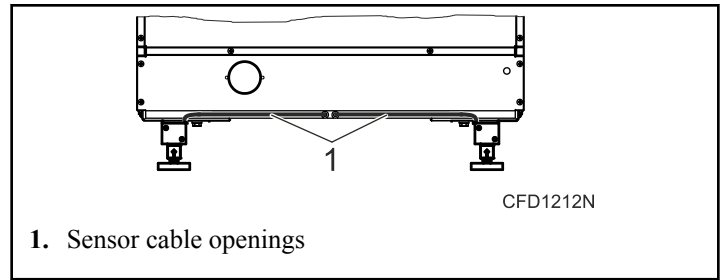

Figure 17
7. Fit the sensor cables into the prepared openings with cable fixtures. Refer to *Figure 17*.